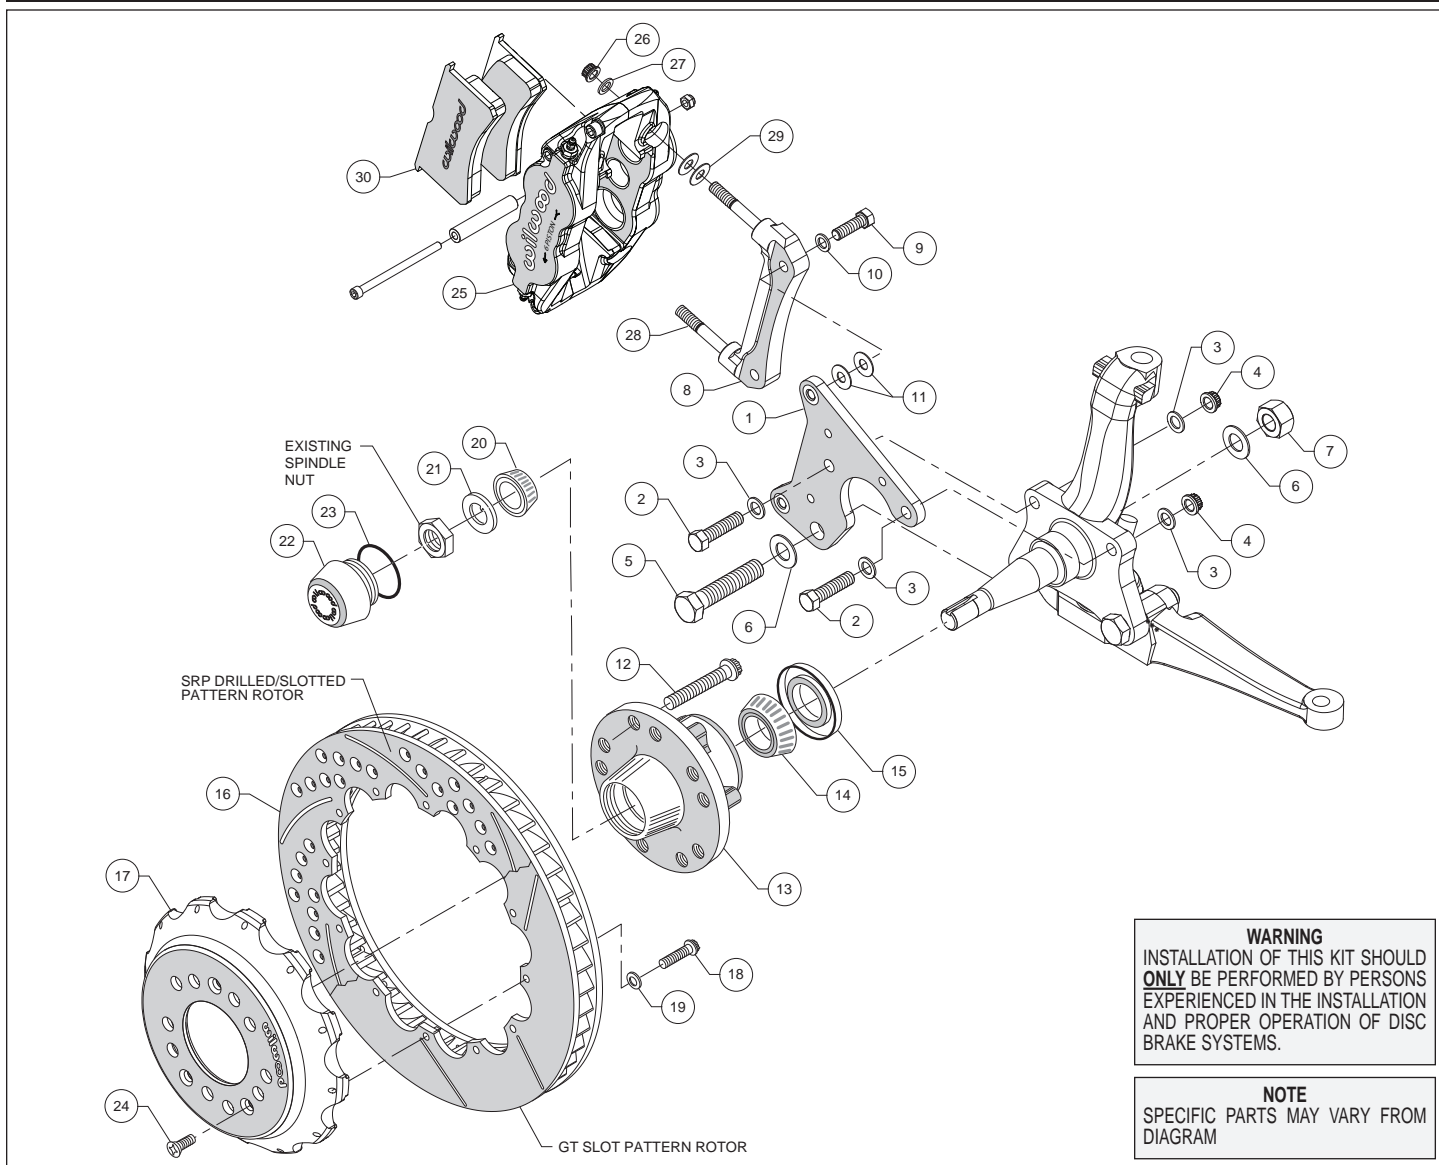
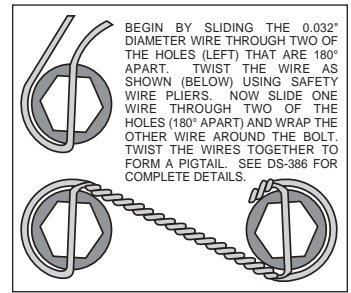

Figure 1. Typical Installation Configuration
Figure 3. Safety Wire Diagram
Assembly Instructions (numbers in parenthesis refer to the parts list and Figure 1 on the preceding pages): **CAUTION:** All mounting bolts must fully engage clinch nuts. Be sure to check that all bolts are protruding through flanged side of clinch nut after shimming.
- Orient the spindle bracket (1) as shown in Figure 1 and Photo 1, and install using bolts (2), washers (3), and nuts (4) on the top holes and bolt (5), washers (6), and nut (7) on the bottom hole, Figure 1 and Photo 1. Temporarily tighten the mounting bolts. Ensure that the flanged heads of the clinch nuts in the bracket are facing outboard, Photo 1. **NOTE:** The bracket must fit squarely against the mounting points on the spindle. Inspect for interference from casting irregularities, machining ridges, burrs, etc. Remove nuts one at a time, apply red *Loctite*® 271 to bolt threads and torque nuts (4) to 47 ft-lbs. and nut (7) to 140 ft-lbs.
- The caliper mount radial bracket (8) should initially be installed with clean, dry threads on the mounting bolts. Orient the bracket as shown in Figure 1, and Photo 2. Install onto the spindle bracket using bolts (9), and washers (10). Initially place two .035 thick shims (11) on each bolt between the radial and spindle brackets, Figure 1. Temporarily tighten the mounting bolts. Later, after the caliper alignment has been checked, the mount bolts will be secured using red *Loctite*® 271.
- Install wheel studs (12) into the hub (13), Photo 3. Torque to 77 ft-lb. **NOTE:** There are two five lug patterns in the hub (5 x 4.50 and 5 x 4.75). Ensure the correct hub stud pattern is being used to fit the wheel application.
- Pack the large inner bearing cone (14) with high temperature disc brake bearing grease (available from your local auto parts store) and install into the backside of the hub (13), Photo 4.
- Install the grease seal (15) by pressing into the backside of the hub (13), flush with the end of the hub, Photo 4.
- Orient the rotor (16) and the hat (17) as shown in Figure 1 and Photo 5. Attach rotor to hat using bolts (18) and washers (19). Using an alternating sequence, apply red *Loctite*® 271 to the threads, and torque to 155 in-lbs. For an added measure of security, the bolts may be safety wired using standard 0.032 inch diameter stainless steel safety wire as shown in Figure 3. Refer to Wilwood's data sheet DS-386 (available at www.wilwood.com/Pdf/DataSheets/ds386.pdf) for complete safety wire installation instructions.
- Pack the small outer bearing cone (20) with high temperature disc brake bearing grease and install into hub (13). Slide the hub
- NOTE:** *This kit contains distinct right and left hand calipers that must be mounted in a specific direction, as described below.* Lubricate the caliper mounting studs (28) with lightweight oil. Initially place two .035" thick shims (29) on each stud between the caliper and the bracket, as shown in Figure 1 and Photo 8. Mount the caliper (25) onto the bracket (8) using lock nuts (26) and washers (27), Figure 1. Ensure that the caliper is mounted so the largest pistons are at the rotor exit end of the caliper, in relation to the direction of rotor rotation. Temporarily tighten the lock nuts and view the rotor through the top opening of the caliper. The rotor should be centered in the caliper, Photo 9. If not, adjust by adding or subtracting shims (11) between the spindle bracket (1) and the caliper mount bracket (8). Always use the same amount of shims on each of the two mounting bolts. Once the caliper alignment is correct, remove the radial bracket mounting bolts one at a time, apply red *Loctite*® 271 to the threads, and torque to 40 ft-lb. **NOTE:** *The end of the bolts must be flush with, or protruding through, the head of the clinch nut.*